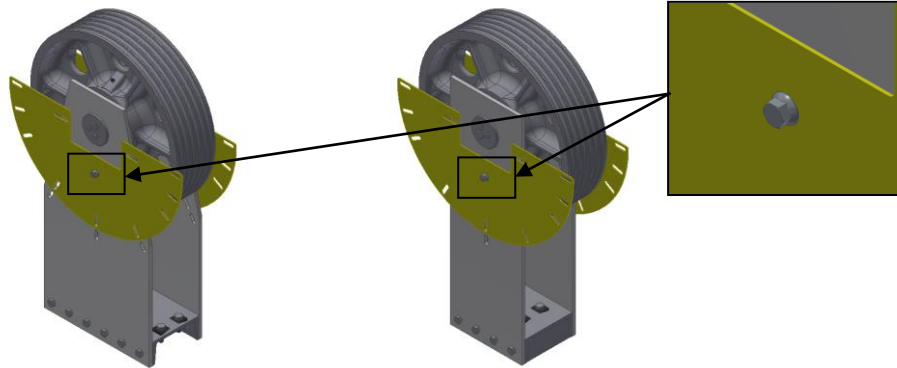

Figure 11: Rope Retainer Side Plates
- Position rope retainer side plates as shown below in Figure 11 on the outside of the hanger sheave side plates.